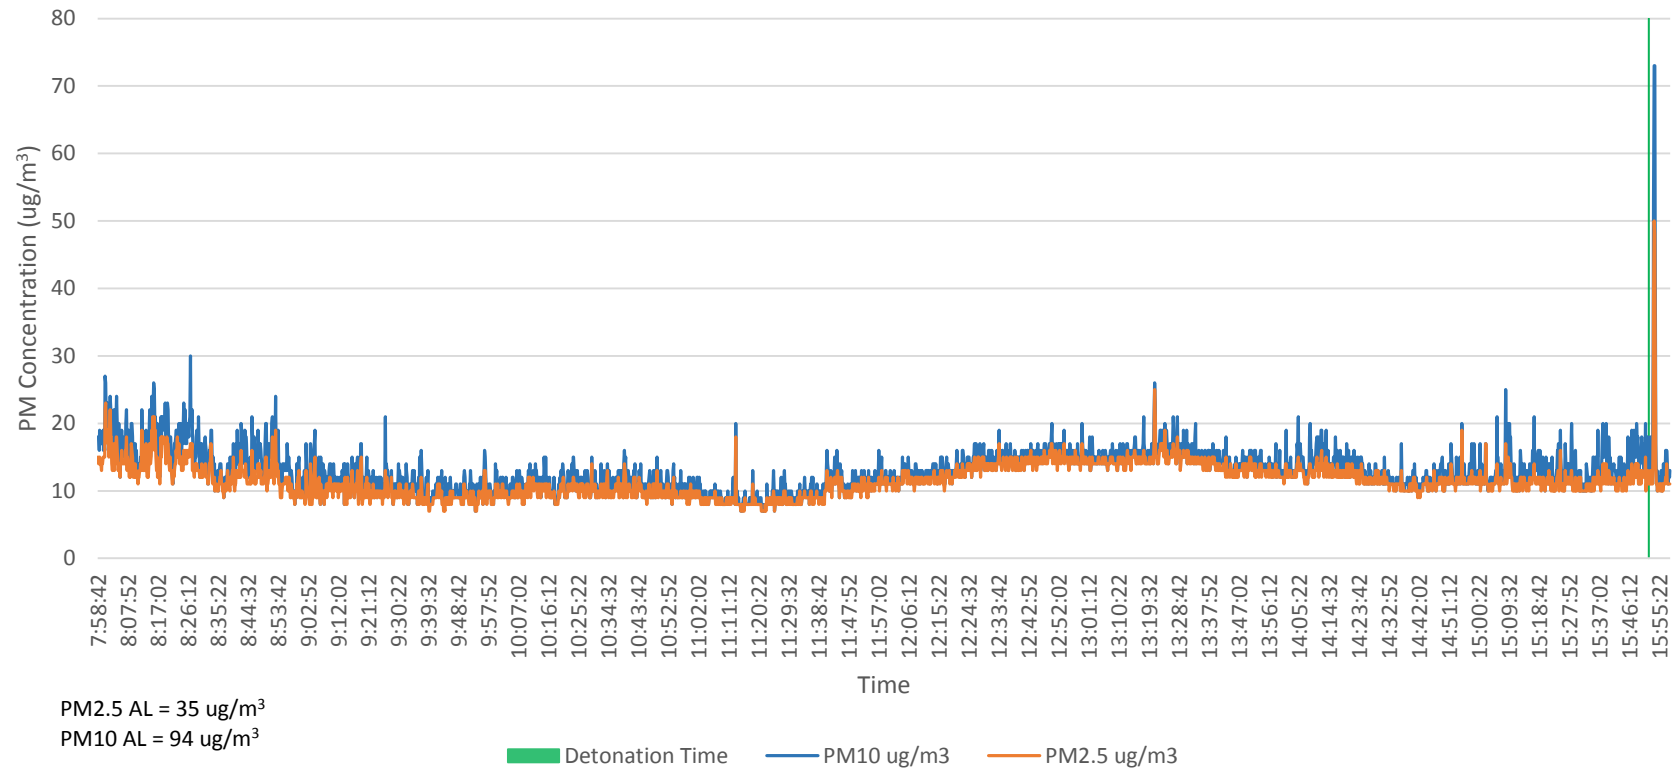

Figure 3-4. PM2.5 and PM10 on 8/9/17 at the Demolition Area Monitoring Point
- Figure 3-4. PM2.5 and PM10 on 8/9/17 at the Demolition Area Monitoring Point